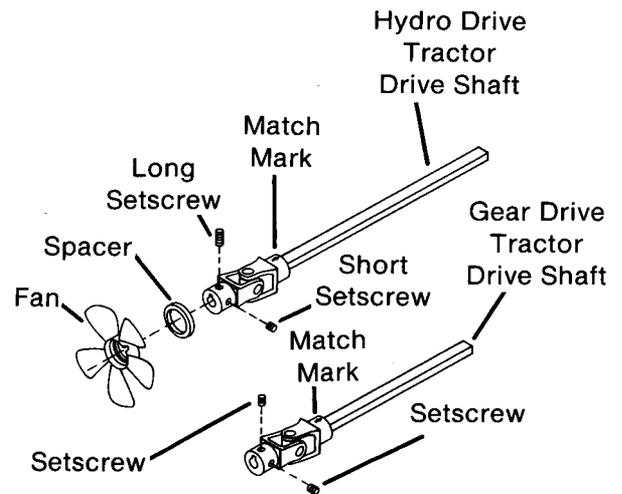

FIG. 5
- J. (Gear Drive Tractors Only) Loosen two setscrews on rear of drive shaft. (Fig. 5)
(Hydro Drive Tractors Only) Remove one long setscrew thru notch in fan hub on rear of drive shaft. Rotate fan to expose second short setscrew, loosen setscrew. (Fig. 5)
NOTE: Drive shaft is a balanced assembly and **must** be reassembled the same way it was removed. Match marks (arrows) are stamped into both front and rear universal joints, if chalk marks are not made, to insure proper reassembly. (Fig. 5)
- K. (Gear Drive Tractors Only) Loosen two setscrews on rear of drive shaft. (Fig. 5)
- (Hydro Drive Tractors Only) Remove one long setscrew thru notch in fan hub on rear of drive shaft. Rotate fan to expose second short setscrew, loosen setscrew. (Fig.5)
- NOTE: Drive shaft is a balanced assembly and **must** be reassembled the same way it was removed. Match marks (arrows) are stamped into both front and rear universal joints, if chalk marks are not made, to insure proper reassembly. (Fig. 5)
- E. (Gear Drive Tractors Only) Loosen two setscrews on rear of drive shaft. (Fig. 5)